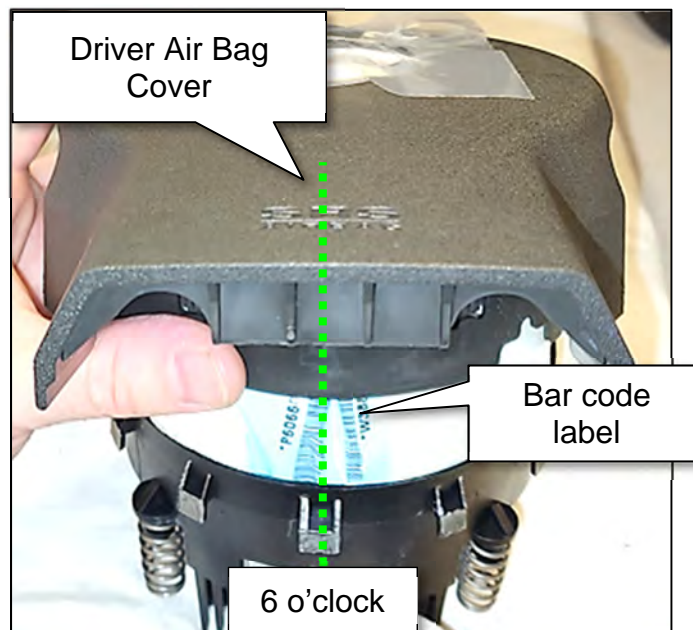

Figure 18
- Position the flat (bottom) part of the Driver Air Bag Cover at the 6 o'clock position so it is perpendicular with the Driver Air Bag Module bar code label, as shown in Figure 18.